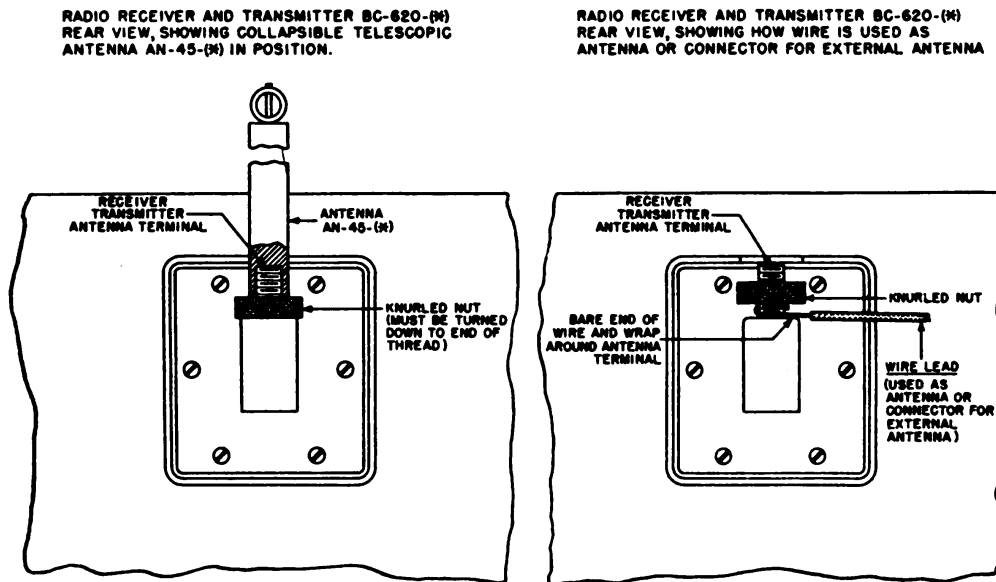

Figure 4. Radio Receiver and Transmitter BC-620-(*), Rear View, Showing Antenna Terminal Connections
(3) Where it is necessary to substitute a wire antenna for the mast, use a 27-foot length of antenna Wire W-29. Loop the uninsulated end of the wire around the antenna terminal and fasten it between the knurled nut and the square portion of the terminal. (See Figure 4.) *Be sure to remove all insulation from that portion of the wire which is to be secured under the nut.*
(4) Unpack the mast bracket and mount it on the vehicle, using suitable bolts or screws. Mount it in the position that is best suited to the limitations of the vehicle and to the mounting space requirements for the radio set. As indicated in Paragraph 6c(2) , it is better to place it close enough to Mounting FT-250-(*) so that the length of the antenna connecting lead can be a 2-foot (\pm 1 in.) length of wire.
(5) Assemble Mast Base MP-48 to the mast base bracket. Connect the antenna terminal of the receiver and transmitter to the top terminal of the mast base. Use Wire W-126 (or W-128) 24 inches (\pm 1 in.) long, routed through the guides of the mast base. (See Figures 4, 8, and 10.) Be sure to remove the inner connector of MP-48 when using a wire lead-in, otherwise the range of the set will be reduced about 50 percent. In those installations where you need a lead-in longer than 24 inches (\pm 1 in.) *you must use Coaxial Cable CD-636 and Terminal Box TM-206*. Place mast base Cover BG-108 over the complete assembly.
(1) Place battery Case CS-79-(*) on the ground or other support. Open the case and remove Handset TS-13-(*), and Antenna AN-45-(*). See that the battery plugs are properly inserted into the batteries. Close the case cover and latch it. Place the radio receiver and transmitter on Case CS-79-(*) and fasten the two units together with catch clips. Join the cable connectors of the two units, placing the key in the keyway, and screw the fittings together securely. Extend Antenna AN-45-(*) to its full length and screw it to the antenna terminal on the rear of the radio receiver and transmitter case, first tightening down the knurled nut securely. (See Figure 4.) Insert the Handset TS-13-(*) plugs into the proper jacks on the radio receiver and transmitter panel. The set is now ready to operate.
(2) Turn the switch and volume control knob full ON (to the right.) Turn the meter switch to OPER. Turn the channel selector knob to the channel on which communication is to be made. Listen for the station with which communication is desired. Regulate volume to the desired level. To transmit, press the switch on the handset and speak clearly into the microphone. Release the switch when transmission is completed. To turn the radio set off, turn volume control knob to OFF, (to the left).